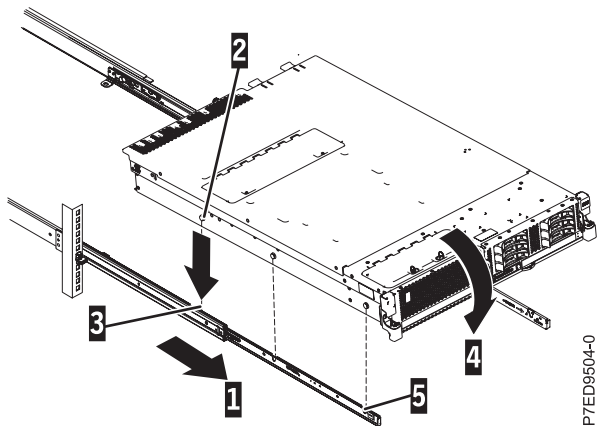

Figure 8. Slide rails extended, server nail heads aligned with slots in rail
2. Extend the slide rails forward (1) until they click twice into place. Carefully lift the server and tilt it into position over the slide rails so that the rear nail heads (2) on the server line up with the rear slots (3) on the slide rails. Slide the server down until the rear nail heads slip into the two rear slots, and then slowly lower the front of the server (4) until the other nail heads slip into the other slots on the slide rails. Make sure that the front latch (5) slides over the nail heads, as shown in Figure 8.